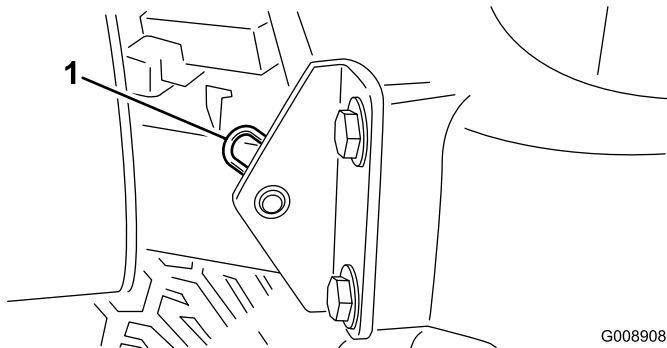

Figure 49
2. Remove the cotter pin that secures the hood pivot to the mounting brackets (Figure 49).